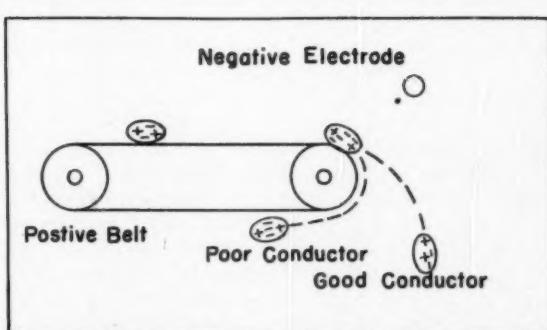

Fig. 2 Discharging field in which seeds receive a charge by conduction
When the electrode is rotated so that the wire is between the tube and the belt, a discharging or "pinning" field is created (5). Seeds passing through this field are sprayed with electrons and become negatively charged by conduction as shown in Fig. 2. The better conductors of a seed mixture will lose their charge and fall in a normal discharge pattern from the belt. Seeds that are relatively poor conductors will adhere to the belt, as shown, until their charge is neutralized.